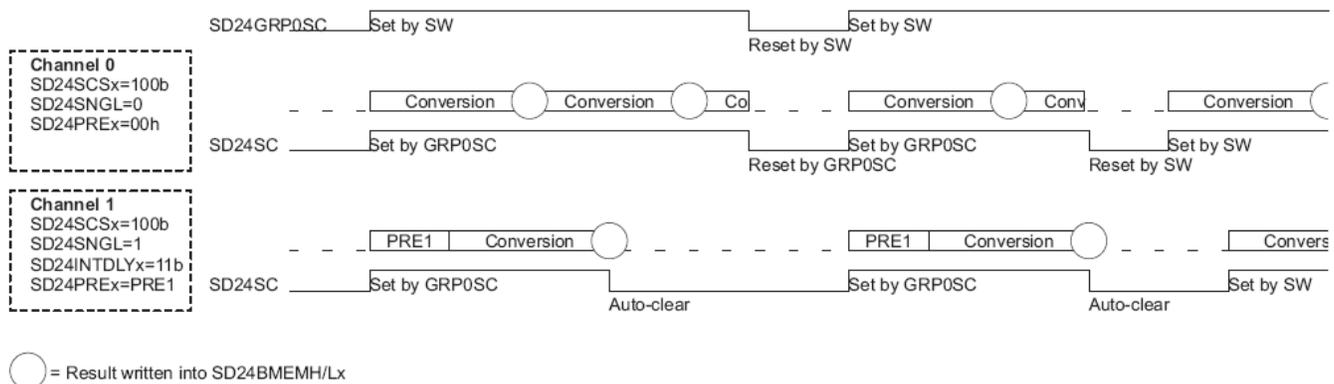

Figure 9. Phase Compensation Using PRELOAD Register
When a current transformer (CT) is used as a sensor, it introduces additional phase shift on the current signals. Also, the voltage and current input circuit's passive components may introduce additional phase shift. The relative phase shift between voltage and current samples must be compensated to ensure accurate measurements. The  $\Sigma\Delta$  converters have programmable delay registers ( $\Sigma\Delta 24PREx$ ) that can be applied to a particular channel. This built-in feature (PRELOAD) is used to provide the phase compensation required. Figure 9 shows the use of PRELOAD to delay sampling on a particular channel.